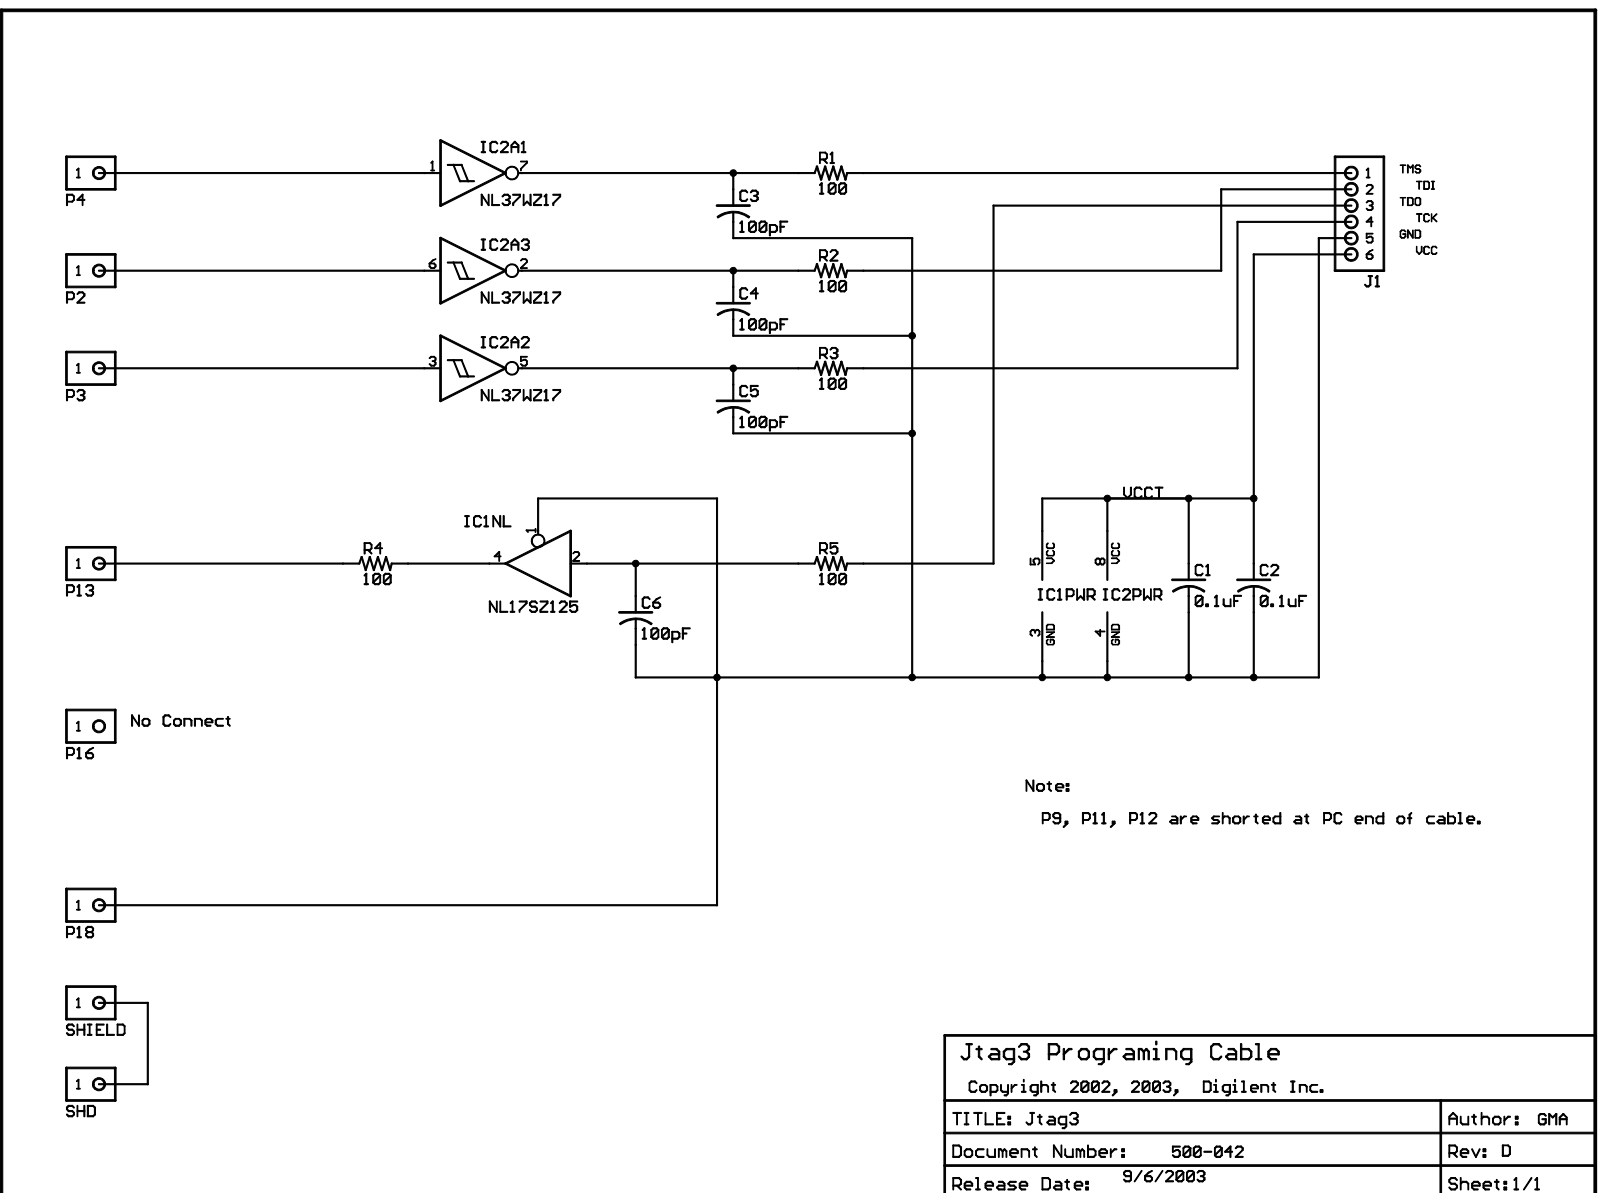

Figure A-9: Diligent JTAG3 Low-Cost JTAG Download/Debug Cable
- Figure A-9, "Digilent JTAG3 Low-Cost JTAG Download/Debug Cable"